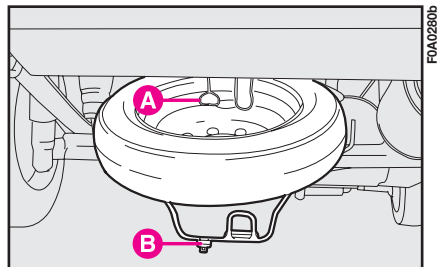

fig. 14a
**1)** Arrange the wheel you have replaced in the specific housing under the floor bed and secure the safety wire **A**-fig. 14a into clip **B**.